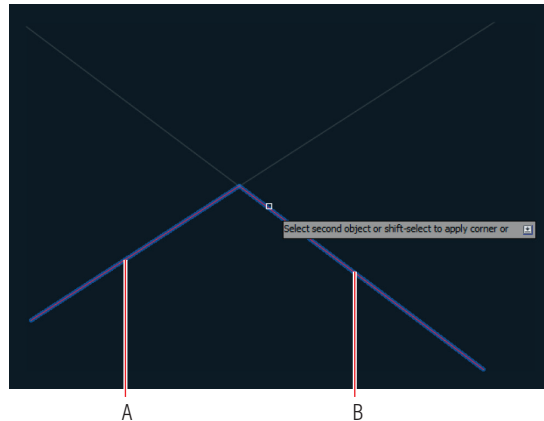

FIGURE 2.28 Filletting lines with a zero radius joins them together precisely.
2. Click the points A and B, as shown in Figure 2.28. The lines are joined at their endpoints, and the remaining portions of the lines beyond their intersection point are trimmed away.